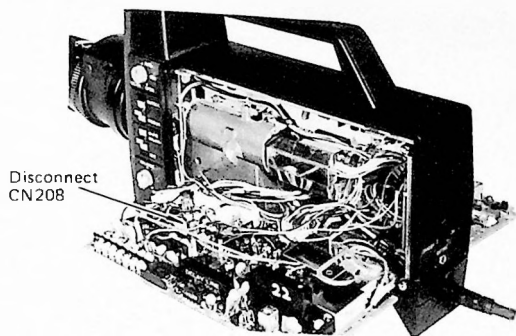

Fig. 8-1
- Disconnect the connector CN208 from the Process circuit board. (Fig. 8-1).